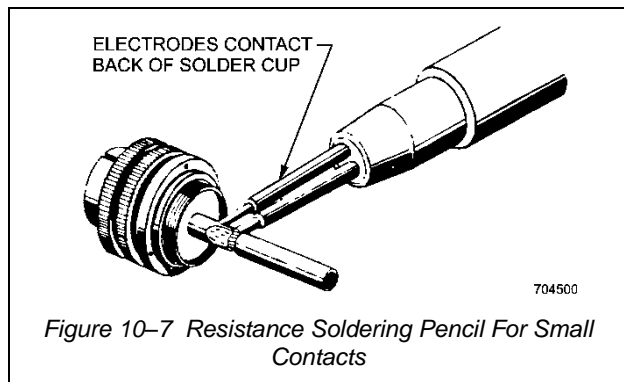

Figure 10-7 Resistance Soldering Pencil For Small Contacts
- b. Small contacts are heated for soldering by use of pencil type resistance soldering tool shown in Figure 10-7. The two electrodes of the tool are placed in contact with the side of the solder cup so that the heating current will pass through the wall of the cup. When the solder in the cup flows, insert the pre-tinned wire. Continue to apply heat to connection until solder flows to form smooth fillet, then stop current and allow joint to cool without movement.